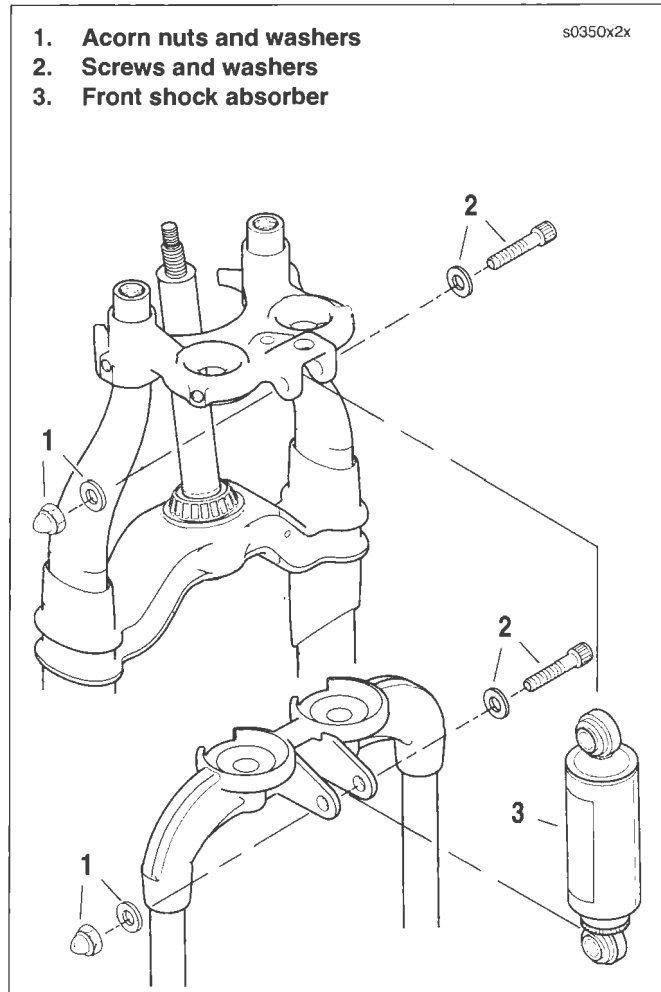

Figure 2-93. Shock Absorber
1. See Figure 2-93. Remove acorn nuts and washers (1).
2. Remove both screws and washers (2). Remove front shock absorber (3).
1. See Figure 2-93. Apply LOCTITE THREADLOCKER 243 (blue) to screws (2). Place shock absorber (3) in position in bracket holes and install screws, washers and acorn nuts. Tighten acorn nuts to 45-50 ft-lbs (61.0-67.8 Nm).